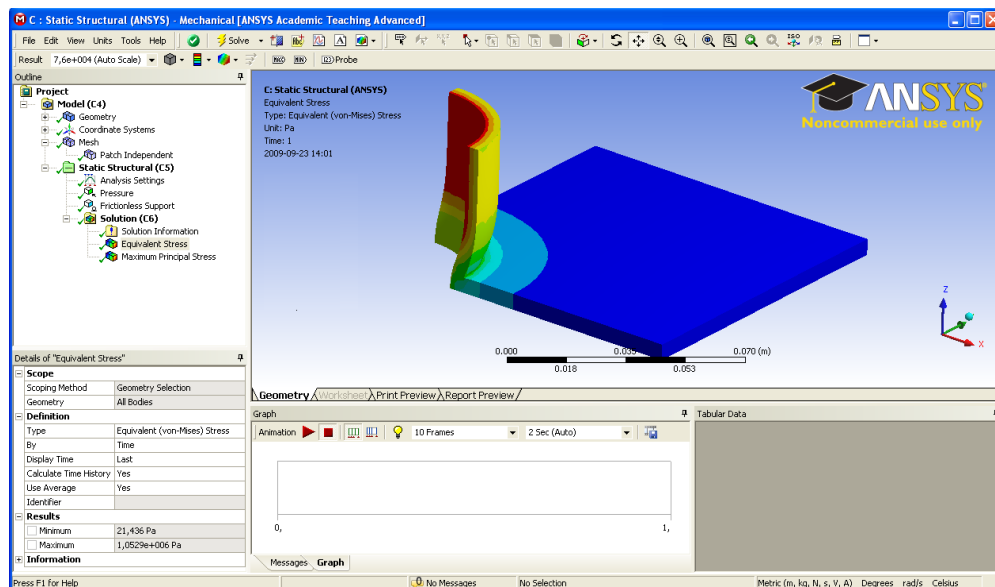

Figure 7
5. And then the following analyze will be done in two steps. The first step is to calculate that result in mechanics analyses, the second step is to add the temperature distribution of this cooling flange with results from mechanical analyze. We start with the mechanical problem. To start analyze, you need to double click  Model at Workbench Project mode. Then you will go to simulation mode as Fig. 7.